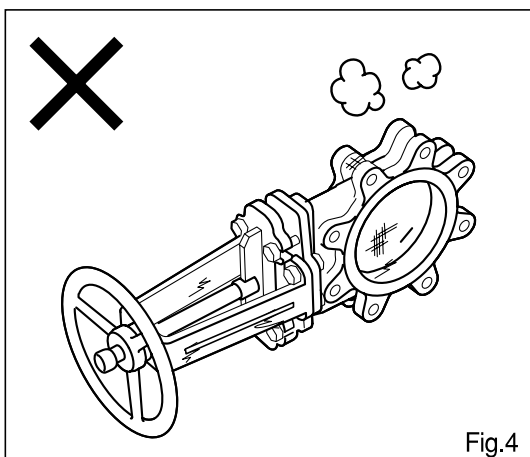

Fig.4
- **Unpacking** : If possible unpacking to be done right before piping works. Valve will not function correctly if left unpacked for long period due to dust and foreign substance. (Fig.4)